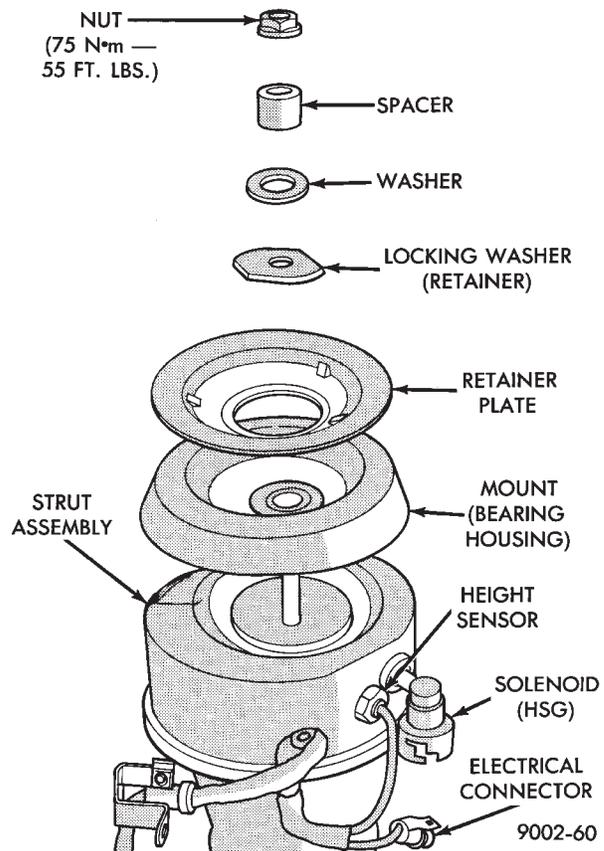

Fig. 17 Air Strut Upper Mount Assembly
(1) Hold retaining plate locking washer and remove strut rod nut.
(2) Remove locking washer, retainer plate, spacer, flat washer and mount/bearing housing assembly (Fig. 17).
(3) Assemble in reverse order. Hold retainer plate locking washer with suitable tool and tighten strut rod nut to 75 N•m (55 ft. lbs.) torque.